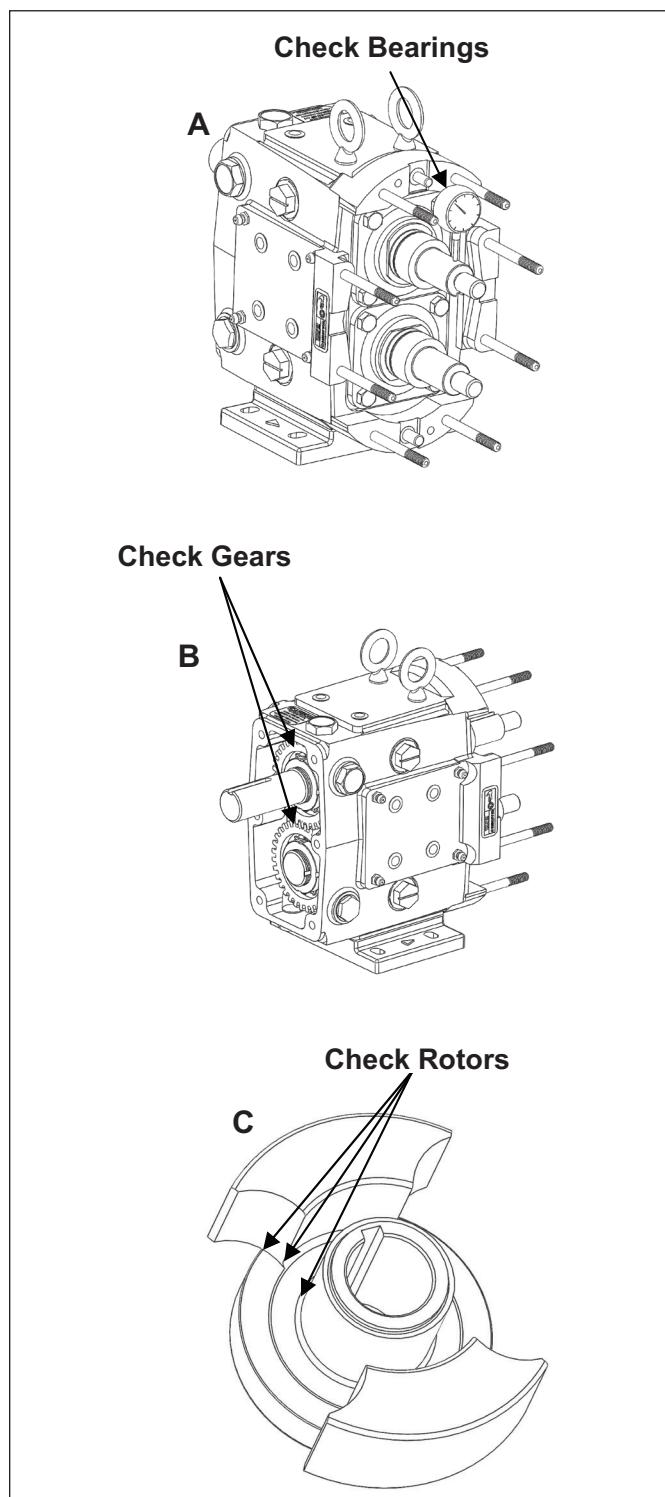

Figure 22. Annual Maintenance Checks
- Check the gear case bearings by measuring the shaft's radial movement with a dial indicator (*Figure 22, A*). If the movement is greater than or equal to the rotor-to-body clearance found on page 41 (*Table 10*) the bearings should be replaced.
- Remove the gear casing cover (see page 30 for disassembly information) and inspect the gears for wear and damage (*Figure 22, B*). Also check for backlash and looseness.
- Inspect the rotors for signs of wear and stress cracks around the areas defined in *Figure 22, C*. Replace, if necessary.